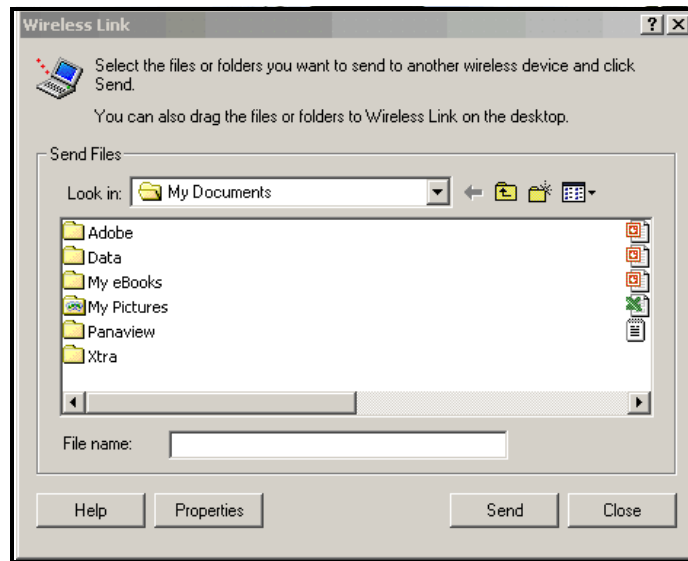

Figure 61: Wireless Link Window
1. Click on the *Infrared* icon in the System Tray - . A window similar to Figure 61 appears.
2. Click on the *Infrared* icon in the System Tray - . A window similar to Figure 61 appears.